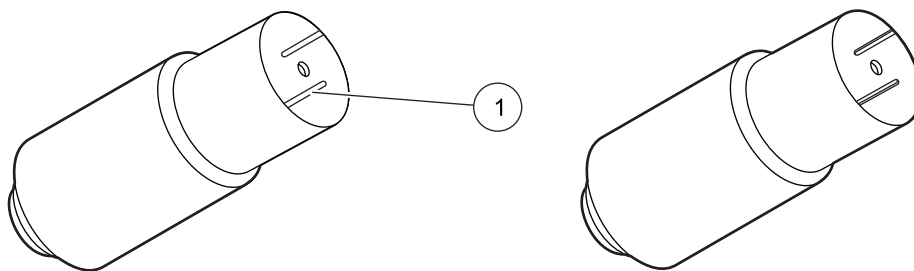

Figure 16 Removal of carbon vanes
9. Remove the carbon vanes and make sure the rotor turns freely (refer to Figure 16 on page 32).